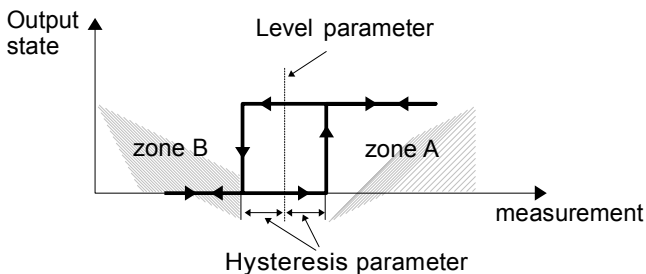
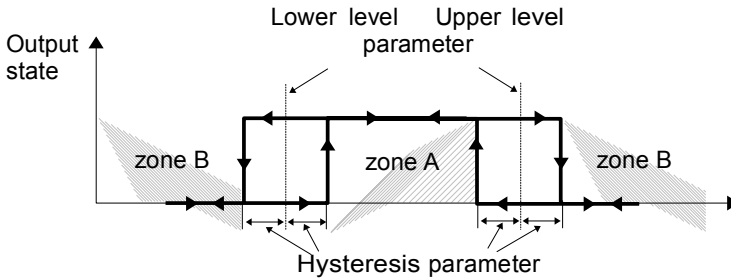
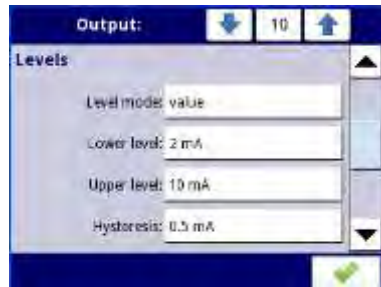

Fig. 7.81. One threshold control of the relay outputs
Fig. 7.82. Two threshold control of the relay outputs
Fig. 7.83. Levels settings for Mode: above and below level (left) and inside range and outside range (right)
- Mode - this parameter allows the user to select the method of operation of the output, Mode parameter has options (see Fig. 7.81 and Fig. 7.82):
Levels parameterblock(seeFig. 7.81, Fig. 7.82 and Fig. 7.83)
- Hysteresis - defining this parameter, the user can move the level for changes in output state (see Fig. 7.81 and Fig. 7.82),